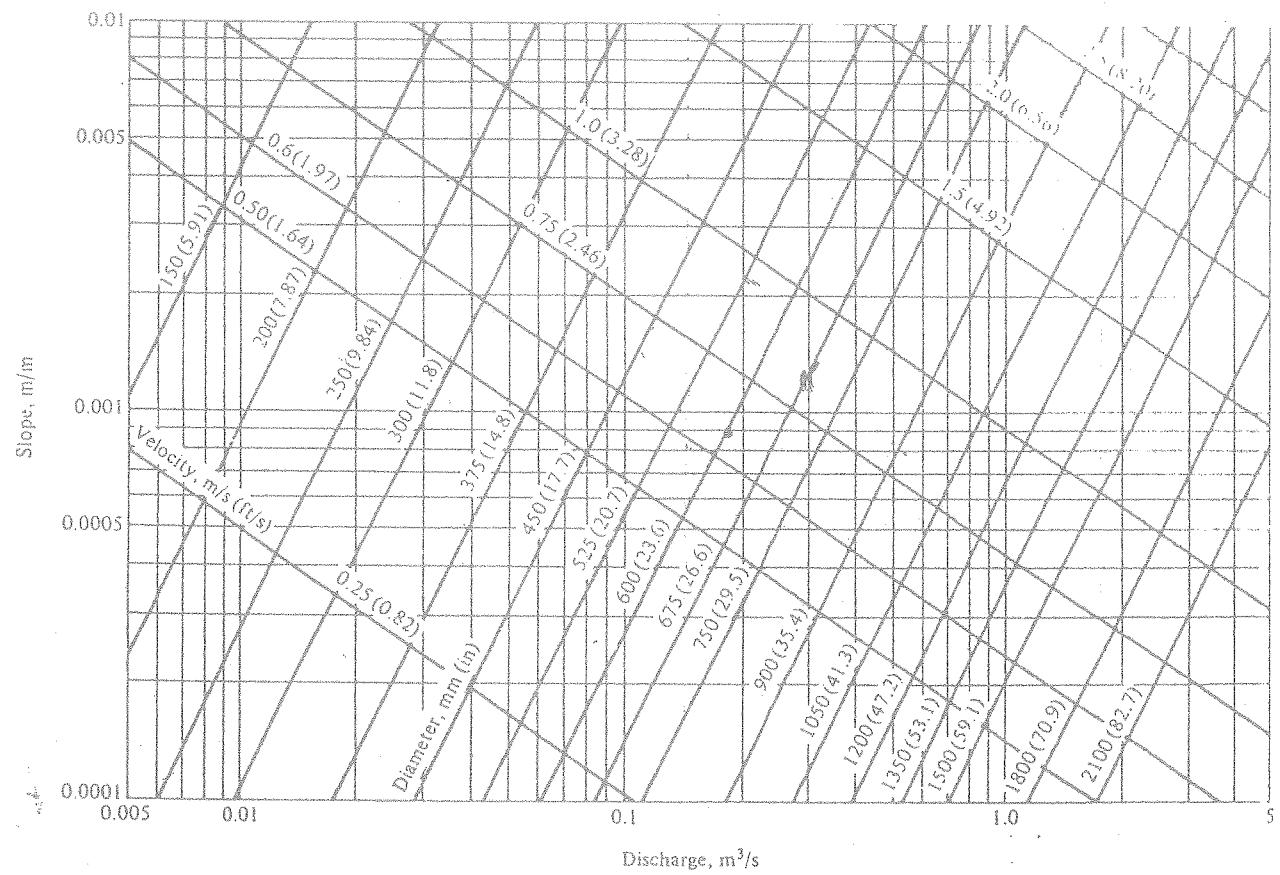

Figure Q1^c Nomograph for solution of Manning's equation for $n = 0.013$
- Q1. Design a gravity-flow trunk sanitary sewer for the street given in Table Q1 (a) from the junction J to the junction L via the junction K. Major manholes are located at the junctions J, K and L. The design should include the design flow rates, pipe diameters, pipe slopes and the pipe invert elevations. Assume that the infiltration rate is negligible. Table Q1 (b) gives the design criteria. For the hydraulic design calculations, use the Manning equation [Figure Q1 (b)]; $V = (1/n)R^{2/3}S^{1/2}$, where V = velocity ($m s^{-1}$); n = friction factor (0.013); R = hydraulic radius = cross-sectional area of flow (m^2)/wetted perimeter (m); S = slope of energy grade line (m/m).